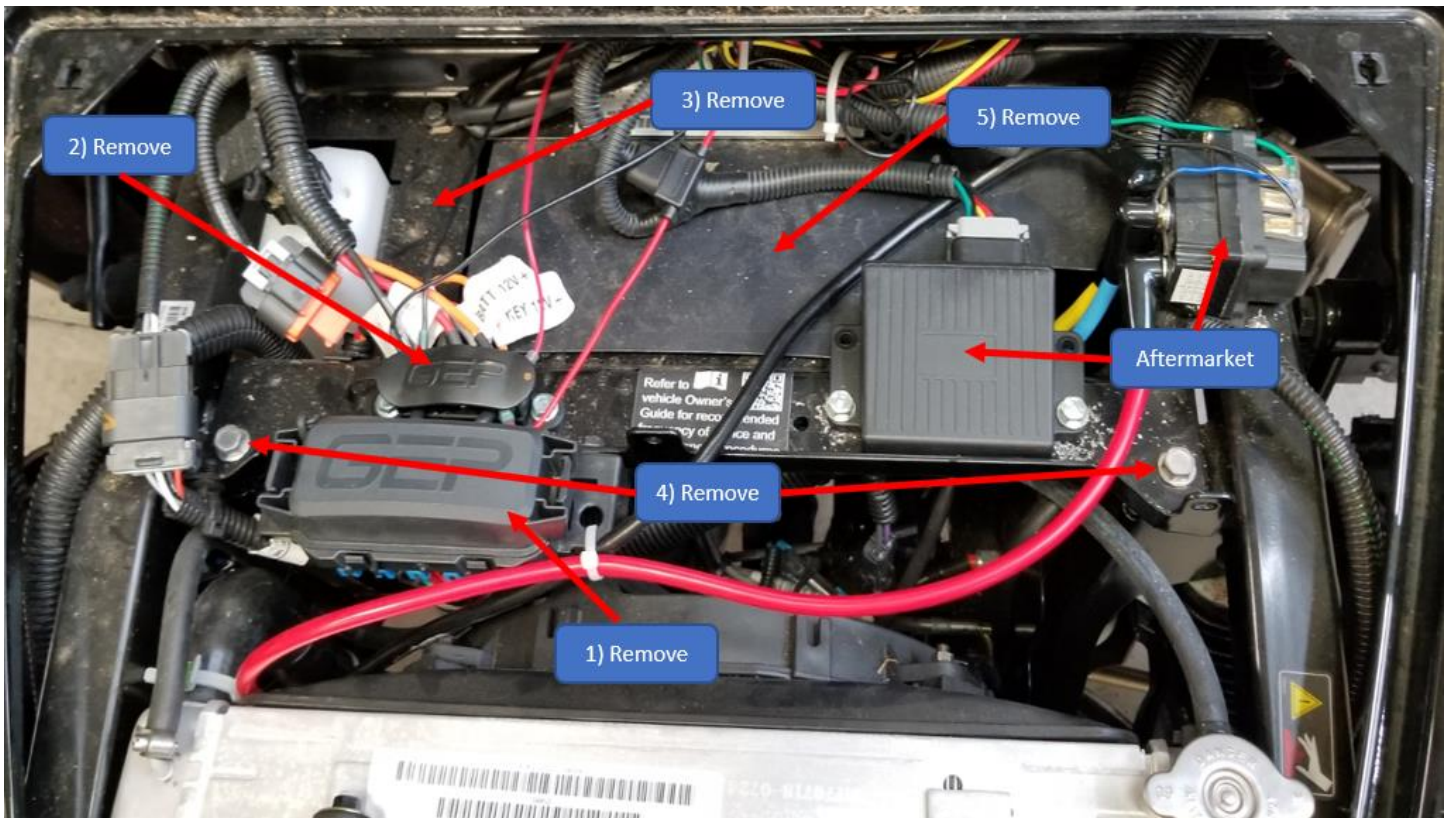
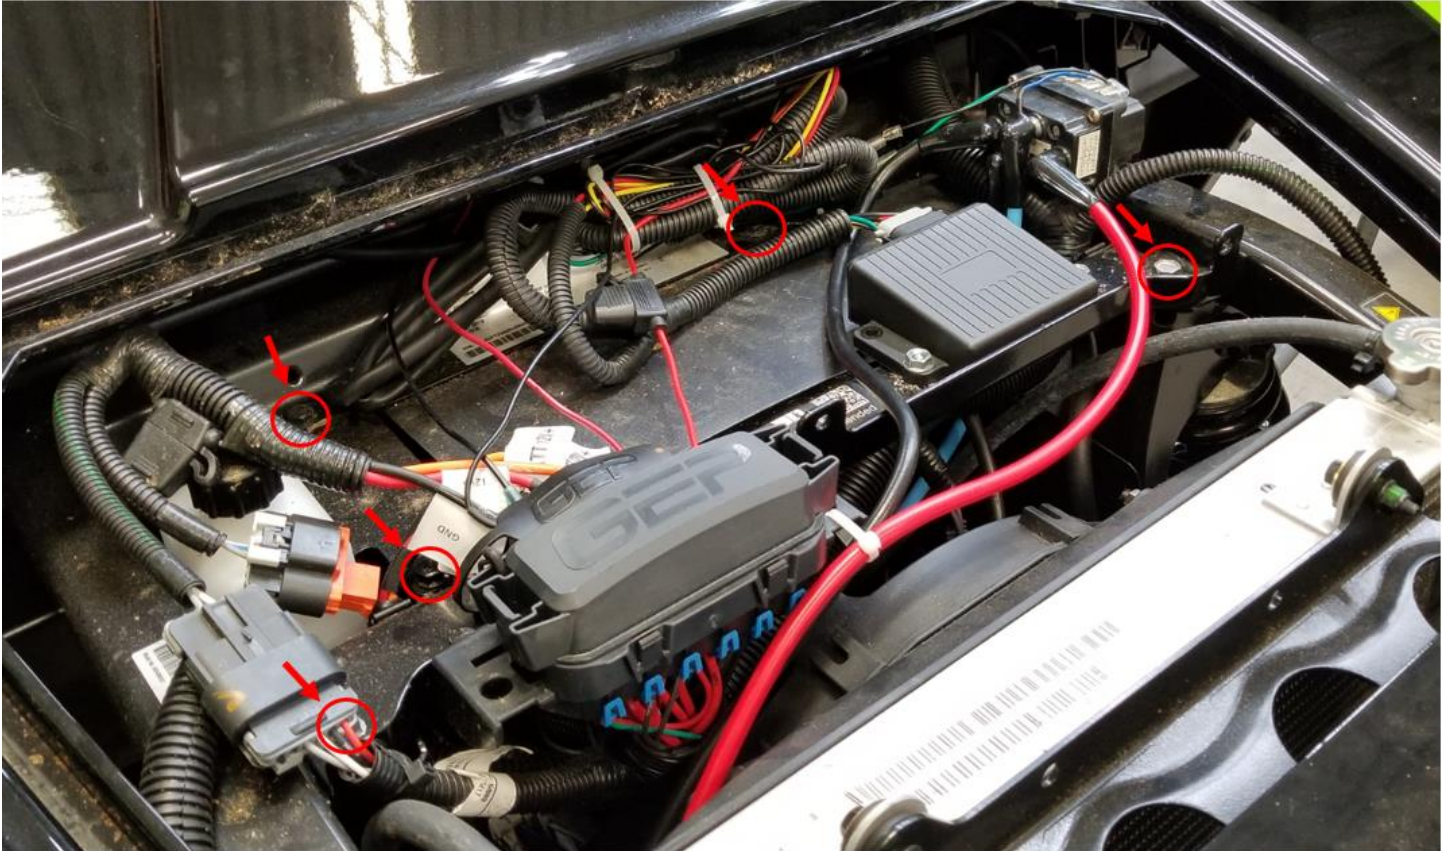

Figure 3
Figure 4
3. Remove the metal cross bar bracket that carries the accessory electronics and detach the coolant reservoir as shown in Figure 3, Figure 4, Figure 5, and Figure 6. Once the metal cross bar is free, remove it and set aside. Keep the coolant reservoir attached to its metal bracket. Allow it to hang down in the open cavity below the metal cross bar. Remove the thin plastic cover and set it aside. Note: it may be necessary to cut zip ties to temporarily move wiring harnesses out of the way. Figure 3 shows some aftermarket components that will not be found on a standard vehicle.